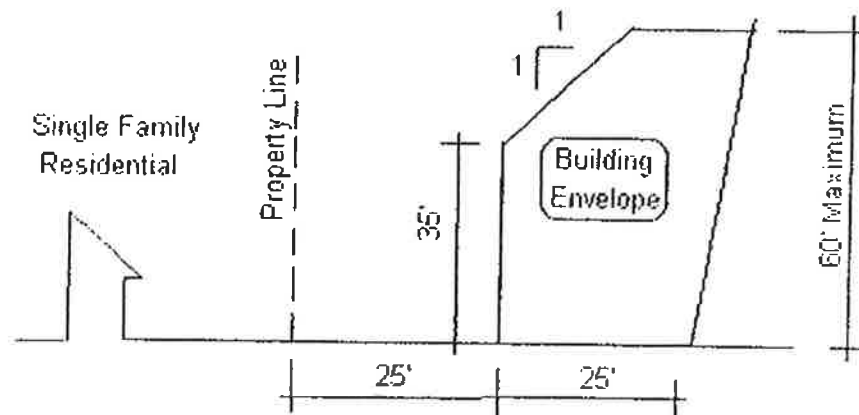

Figure 2 – Building Height
Building height within master-planned residential communities is limited by the use and location in each community as provided for in the deed. When a site is immediately adjacent to single family residential construction, the maximum building height is limited to thirty-five (35) feet at a point twenty-five (25) feet back of the property line. The building height may increase from that point at a 1:1 ratio to a maximum height of sixty (60) feet. (See Figure 2)